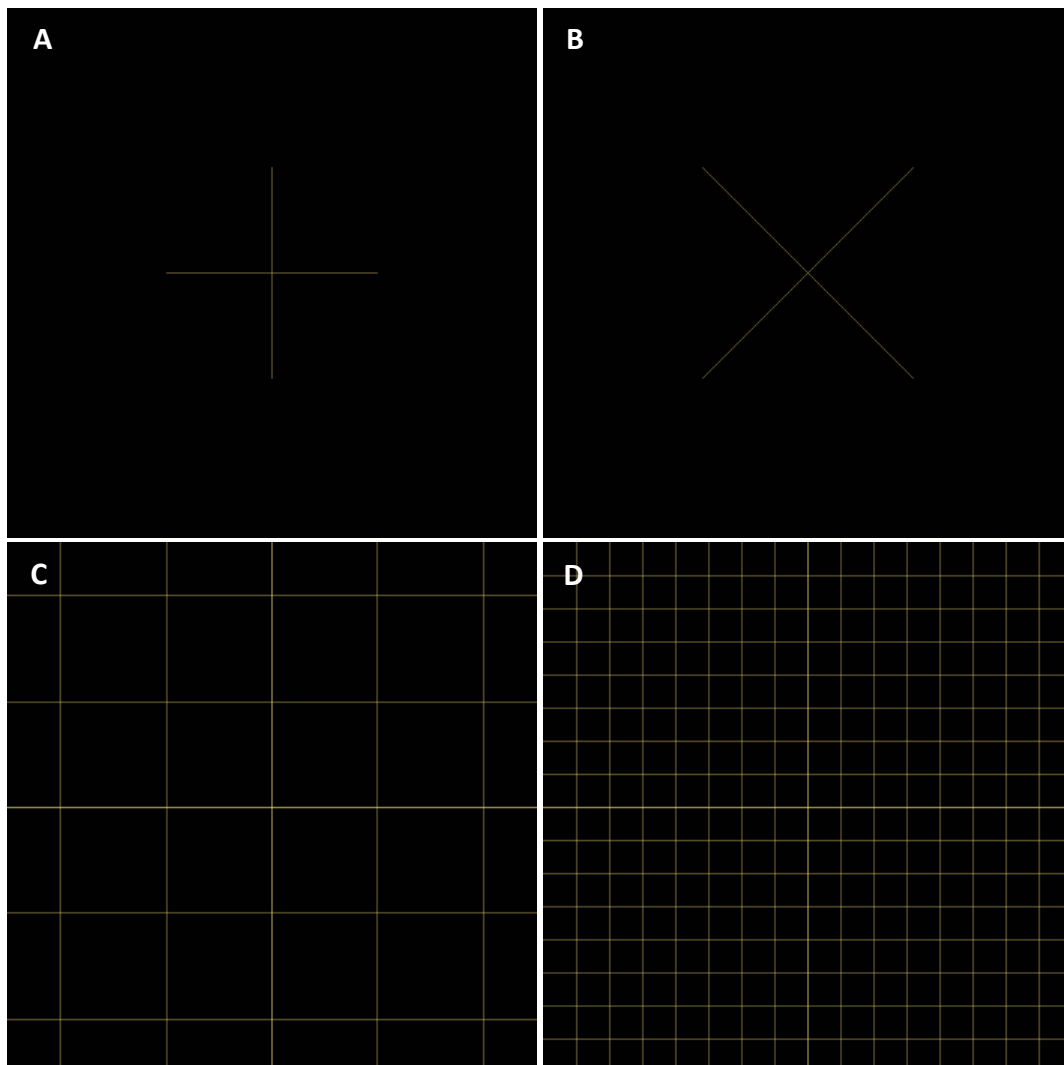

Figure 30 – Grid lines patterns
- Center Cross (X) – see Figure 30 (A)
- Center Cross (+) – see Figure 30 (B)
- Grid lines – see Figure 30 (C)
- Fine grid lines – see Figure 30 (D)